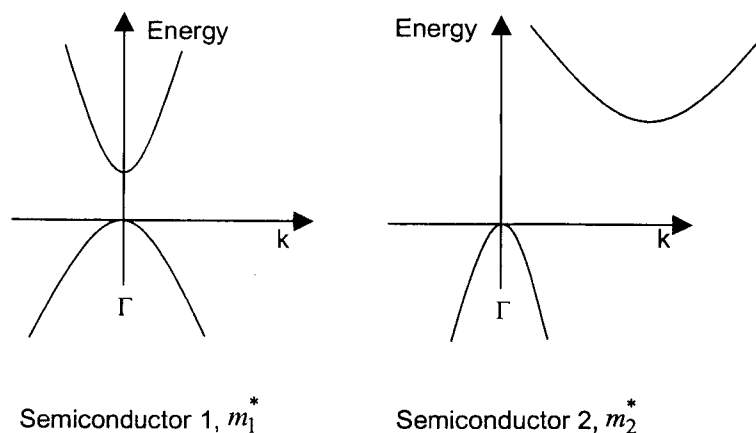

Figure 1.1: The dispersion relation of two semiconductors
- a) The dispersion relations of two semiconductors (semiconductor 1 and semiconductor 2) are given in Figure 1.1.